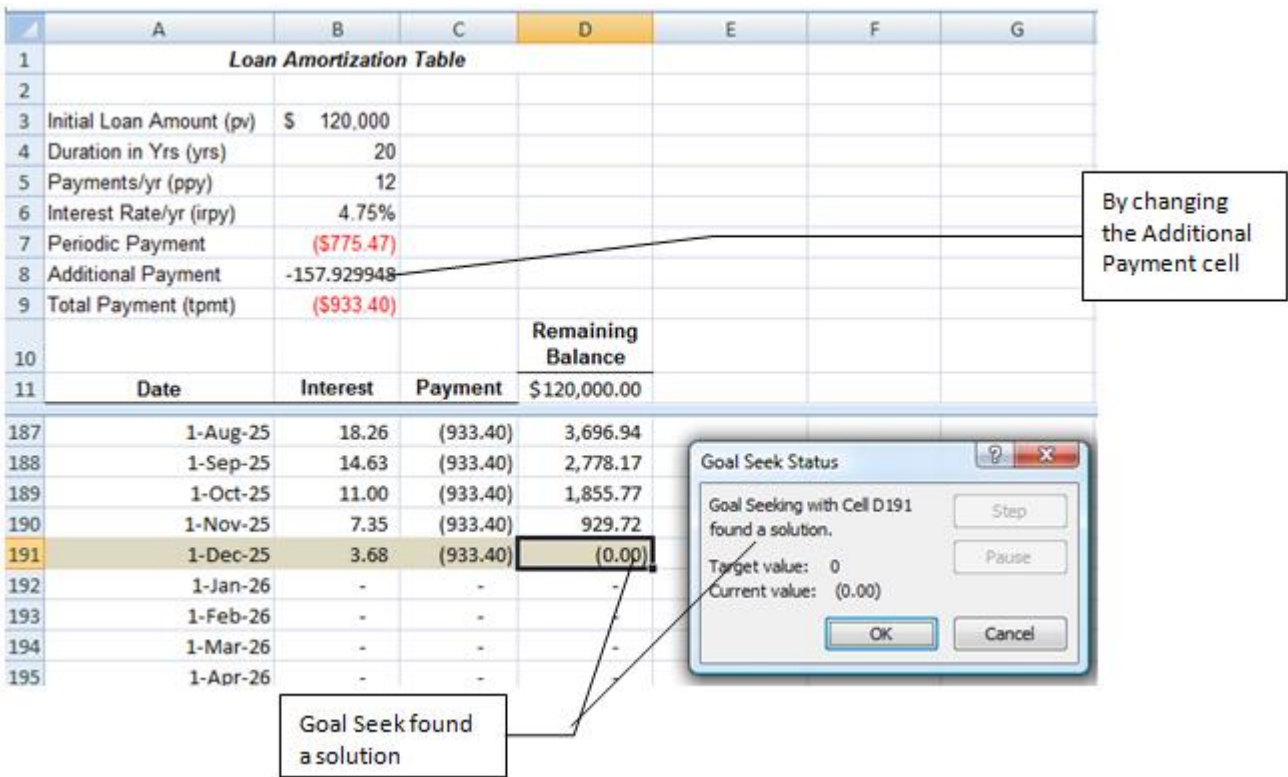

Figure 11.20. Goal Seek found a solution.
6. In the Goal Seek dialog box, confirm that the Set cell box displays D191. In the *To value* box type **0**, in the *By changing cell* box type **B8**. Click OK. Goal Seek finds an answer that will pay off the loan by 1-Dec-25 by changing the additional payment to \$157.93. Compare your results with Figure 11.20.